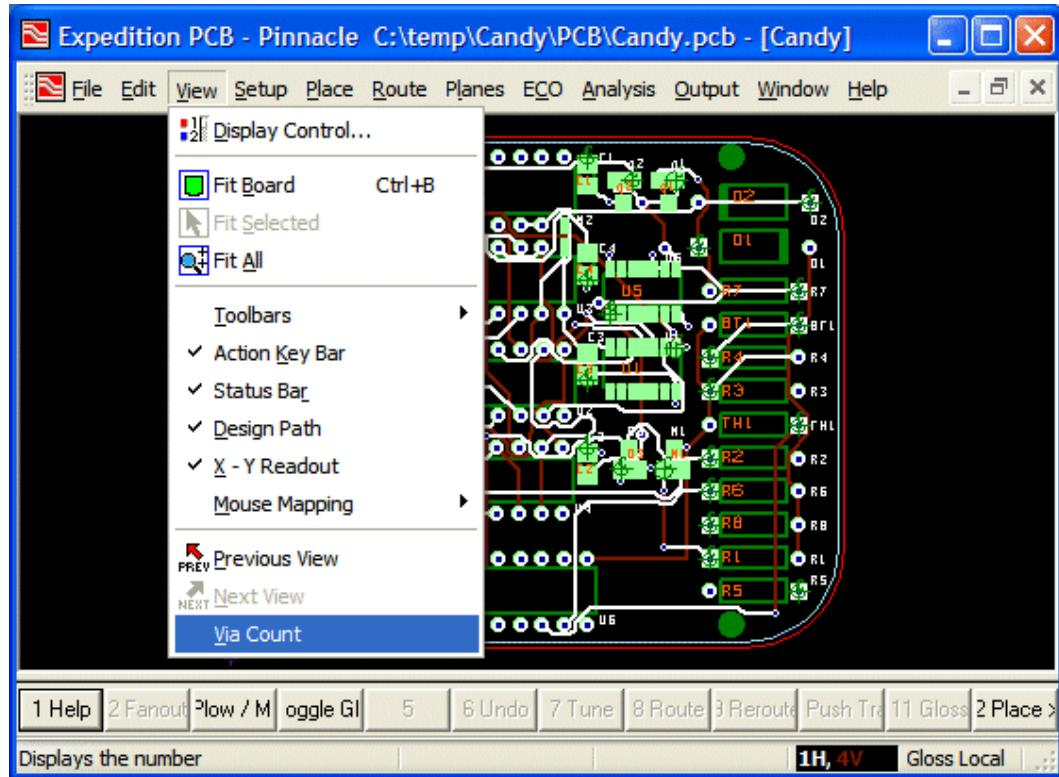

Figure 10.1. The new Via Count button/item.
- 6) Open a layout design document of your choice, then click the **View** pull-down menu and observe that your **Via Count** button/item has been automatically added to the end of the list as illustrated in Figure 10-1.